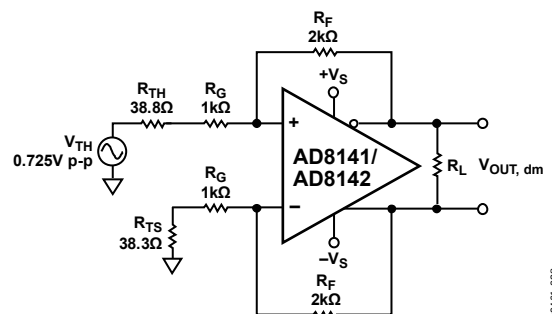

Figure 40. Thevenin Equivalent and Matched Gain Resistors
1. $R_{TH} = R_S || R_T = 38.8 \text{ }\Omega$, and $R_{TS} = 38.3 \text{ }\Omega$. Note that V_{TH} is greater than 0.7 V p-p, which was obtained with $R_T = 75 \text{ }\Omega$ alone. The modified circuit with the Thevenin equivalent of the terminated source and R_{TS} in the lower feedback loop is shown in Figure 40.
Figure 40 presents a tractable circuit with matched feedback loops that can be easily evaluated.